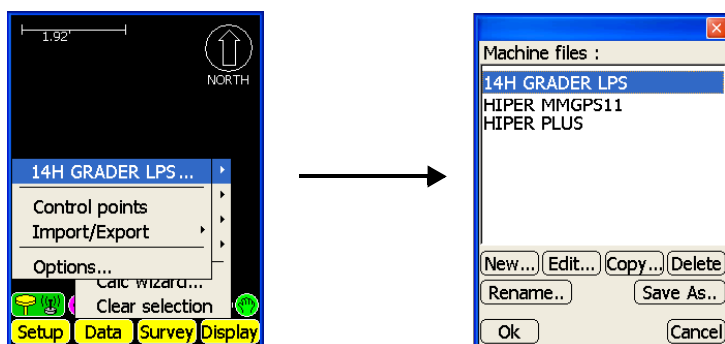

Figure 5-1. Select Equipment Configuration File
1. Press **Data ▶ Control** and select the correct Control Point file (Figure 5-1 on page 5-2). See “Control Point Files” on page 2-2 for more information on selecting or creating new control point files.
2. Press **Setup ▶ Equipment** and select the correct equipment configuration file (Figure 5-1 on page 5-2). See “Equipment Configuration Files” on page 2-28 for more information on selecting or creating equipment configuration files.